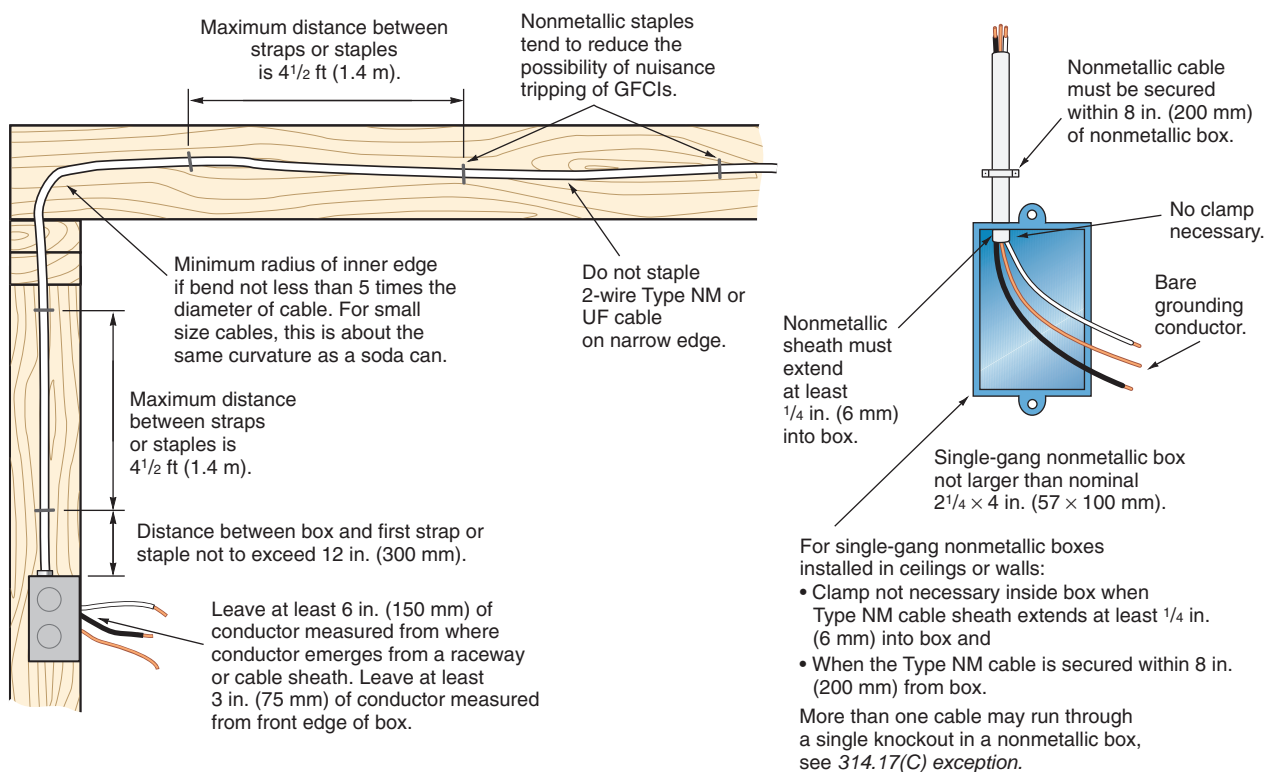

FIGURE 4-11 Installation of nonmetallic-sheathed cable. (Delmar/Cengage Learning)
used for dwelling unit installations on circuits of 600 volts or less. Figure 4-10 shows an example of a stripper used for stripping nonmetallic-sheathed cable. A razor knife also works fine with care. The installation of nonmetallic-sheathed cable must conform to the requirements of *NEC Article 334*. Refer to Figures 4-11, 4-12, 4-13, 4-14, 4-15, and 4-16.
- See Figure 4-11 for special conditions when using single-gang nonmetallic device boxes.
Figure 4-11 shows the *Code* requirements for securing nonmetallic-sheathed cable when using nonmetallic boxes.